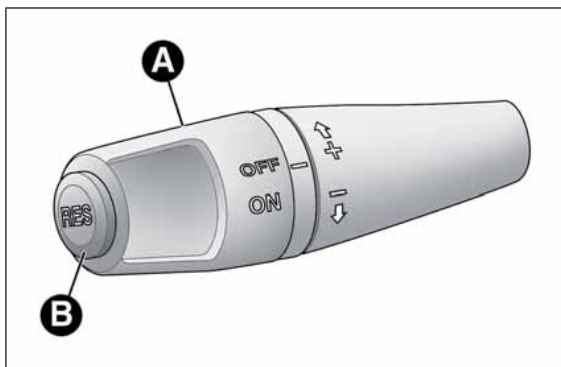

fig. 38
Turn ring nut A fig. 38 to ON.
- turn ring nut A fig. 38 to ON and press the accelerator to reach the required speed.
- press the RES button (B fig. 38).
- turn ring nut A fig. 38 to OFF;
If operation is inadequate or the device is faulty, turn ring nut A fig. 38 to OFF and contact Alfa Romeo Authorized Services.